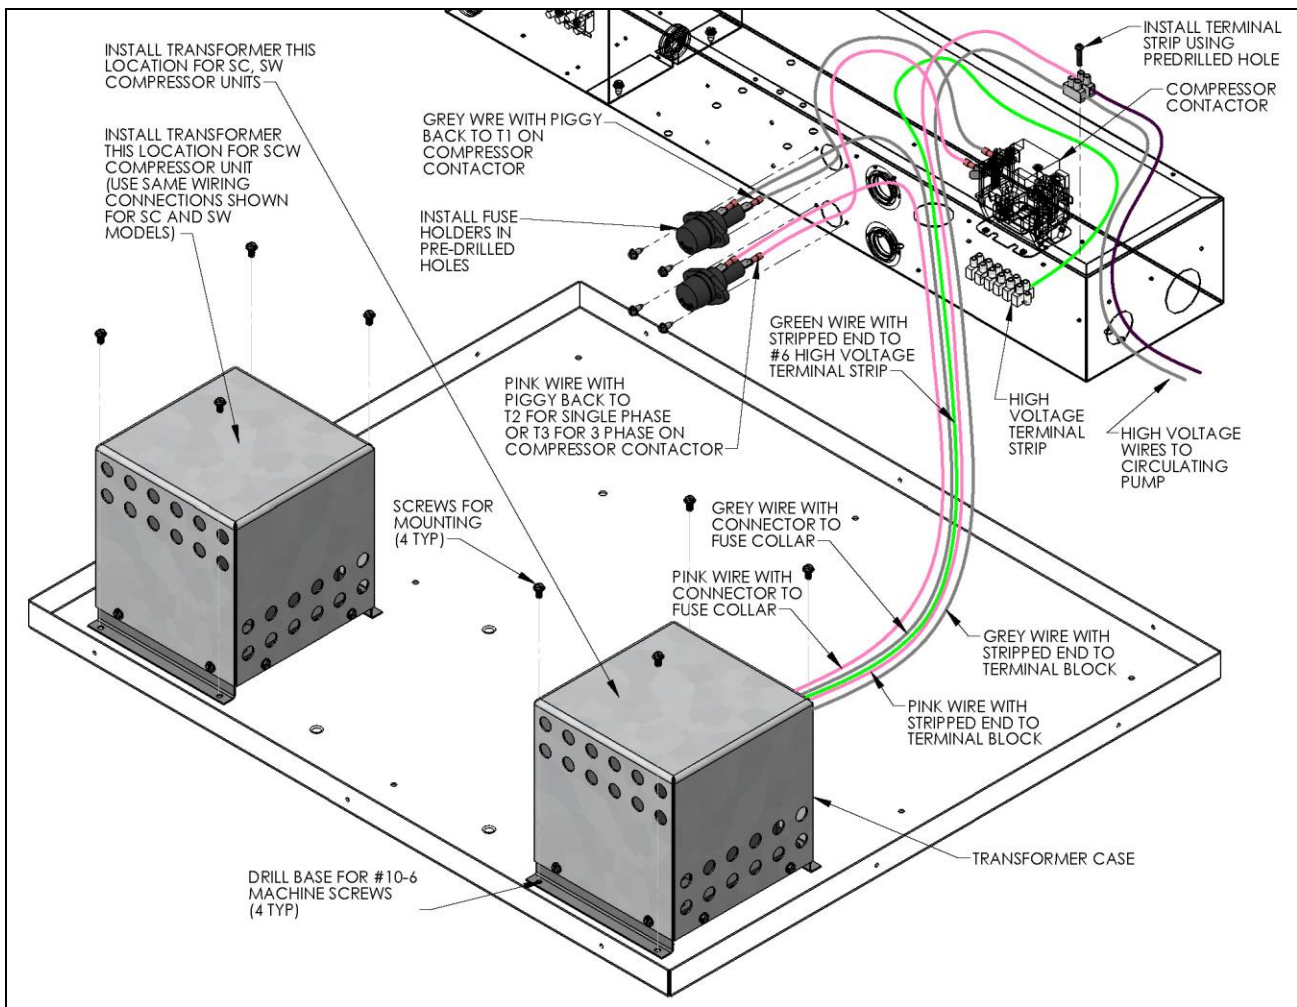

Figure 3. PW2 Assembly to Electrical Box and Base Pan
2. Reference Figure 3 for PW2 assembly to electrical box. Remove available hole covers from the front of the electrical box.
5. Reference Figure 3 for the location of the transformer for the SC and SD Model compressor units, and a different location for the SCW model compressor unit.